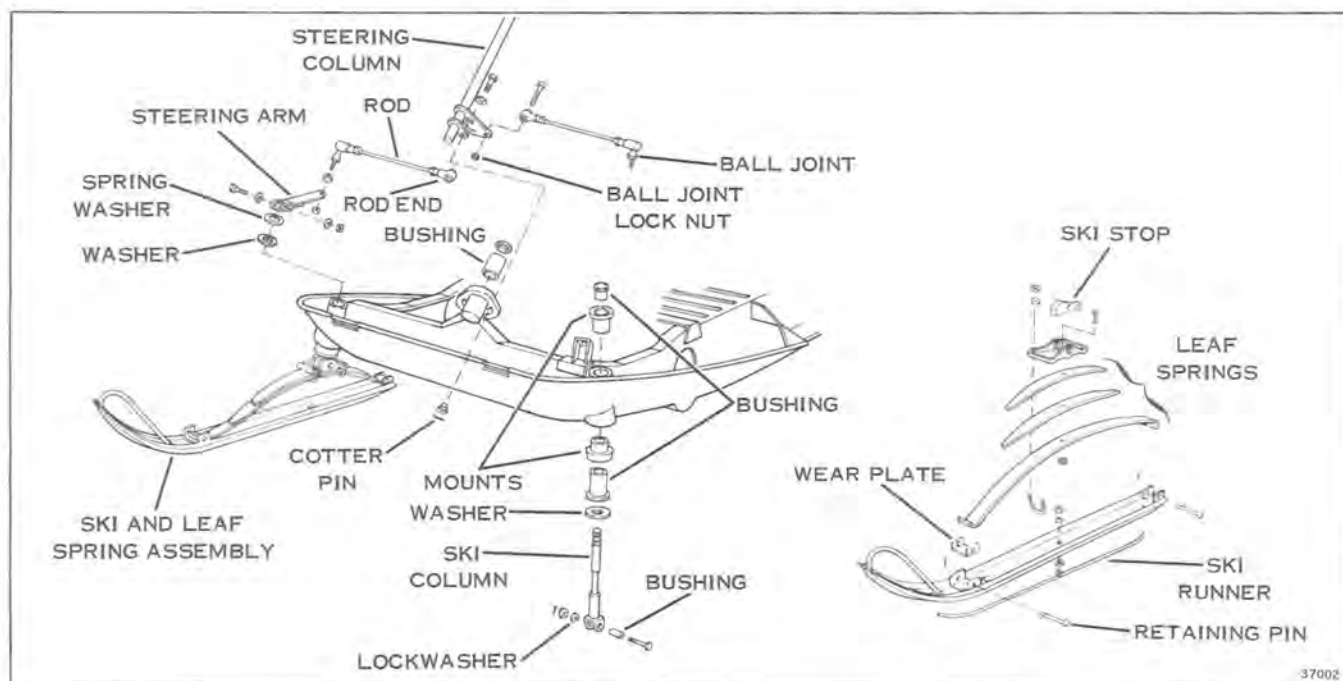

Figure 11-2
- Identify ski columns as left or right for correct reassembly. Remove steering arm from ski column. See Figure 11-2.
- Inspect steering column bushing and replace if worn. See Figure 11-2.